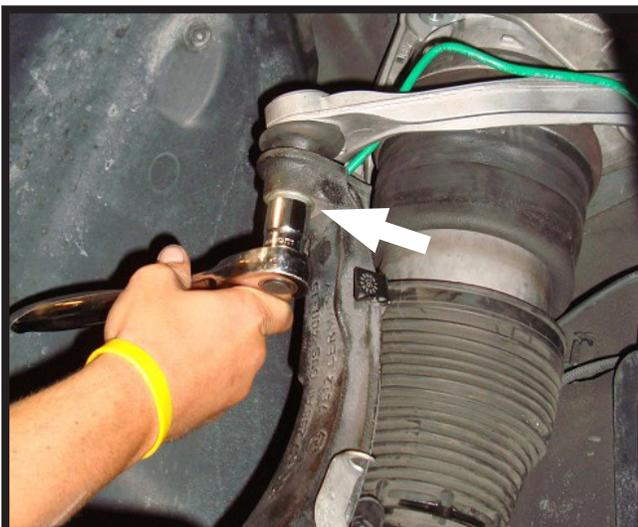

FIGURE 10-4
6. REMOVE THE BALL JOINT NUT FROM THE SPINDLE ASSEMBLY, AND SEPARATE. (FIGURES 10-4, 10-5)